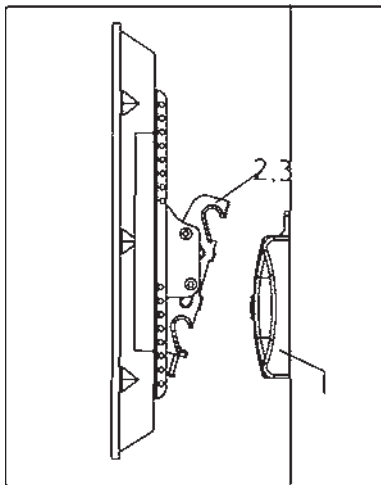

Fig. 4a
2. Hook the top of brackets over the top bar of the wall mount (Fig 4a).